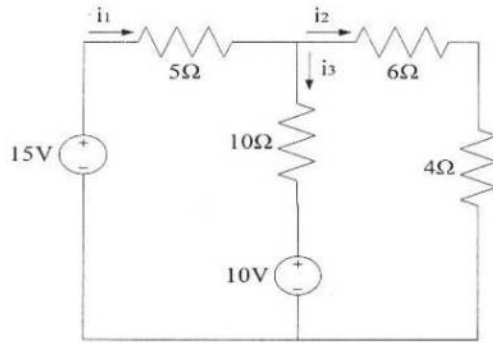

Figure 8(a)
- b. Determine the voltages V_1 and V_2 and the current I generated by the voltage source E_1 shown in figure 8(b).